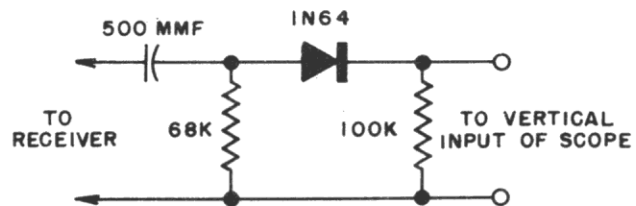

Fig. 21. Detector Network
6. **Detector Network**—A crystal detector network as shown in Figure 21 is necessary to detect the response when aligning L269, the 4.5 mc trap.